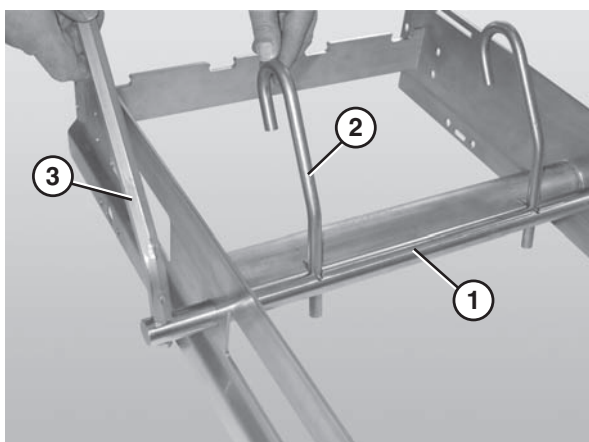

Figure 12
1. Slide the belt lift pivot bar (**Figure 12, item 1**) through the designated holes in the frame. The pins on the belt lift pivot bar should be located inside the frame side rails.
2. Attach the lifter bars (**Figure 12, item 2**) to the belt lift pivot bar (**Figure 12, item 1**). Make sure the hooked ends of the lifter bars are facing down when resting against the frame.
3. Attach the lifter handle (**Figure 12, item 3**) to the belt lift pivot rod.